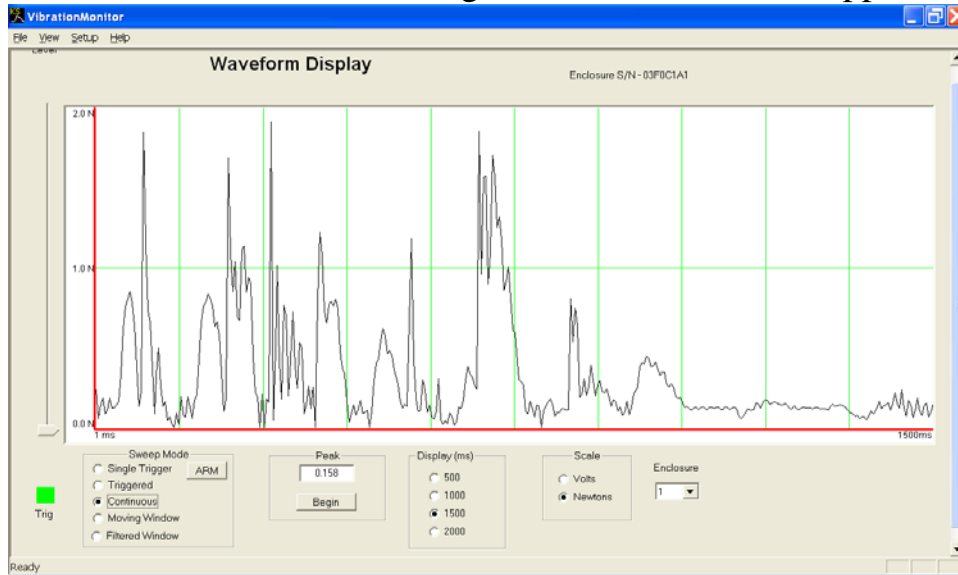

Figure 2-11. Continuous Waveform Display
3. Next click on the diagnostics. You will see a screen similar to Figure 2-11. Please be particularly careful ***not to pull*** on the load cell, it is a delicate device and can be damaged if too much force is applied to it.